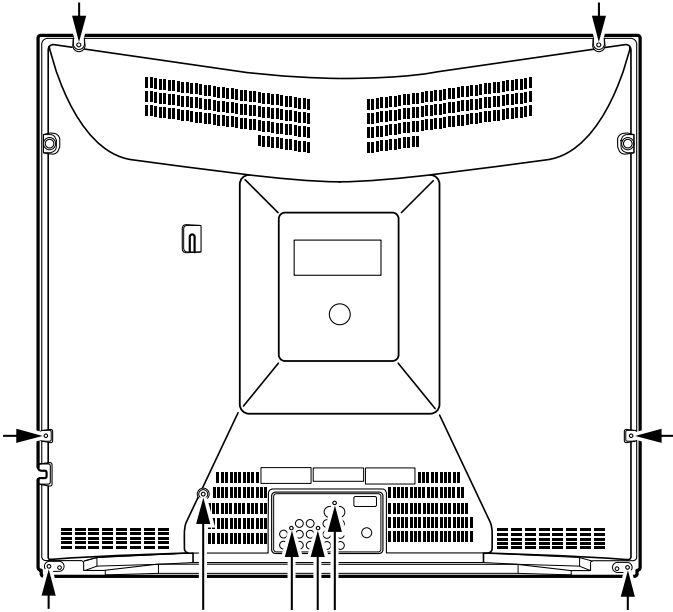

Figure 1. Cabinet Back Removal
1. Refer to Figure 1, remove 10 screws.